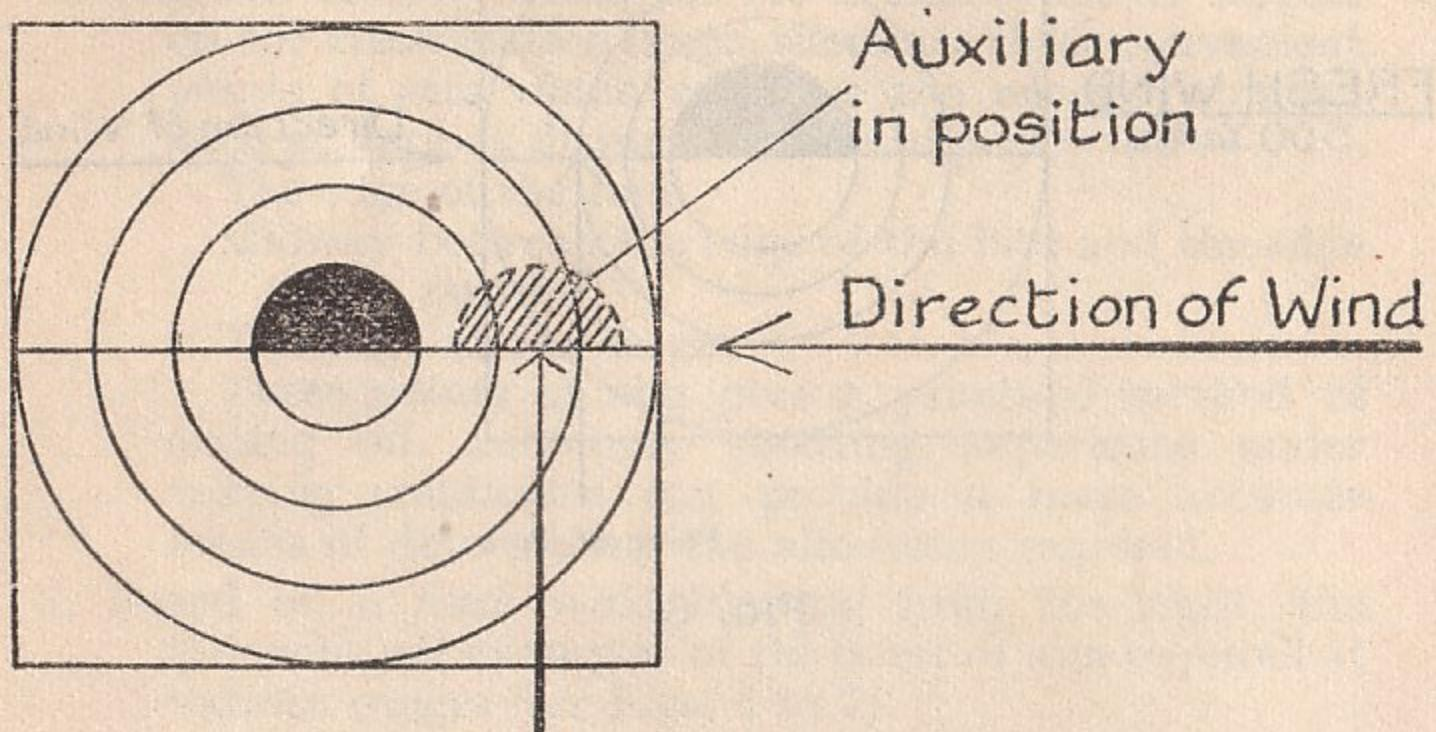

FIG. 8.
- iii. Check aims by auxiliary aiming mark (*see Fig. 8*).